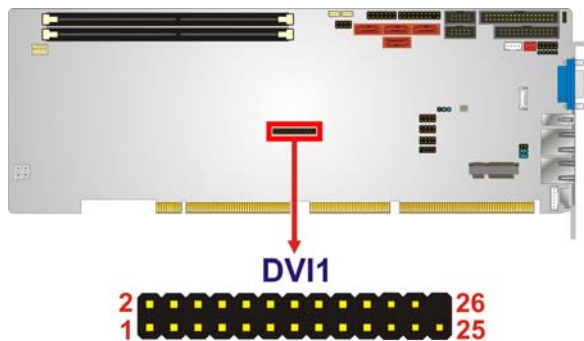

Figure 3-8: DVI-D Connector Location
- CN Location:** See **Figure 3-8**